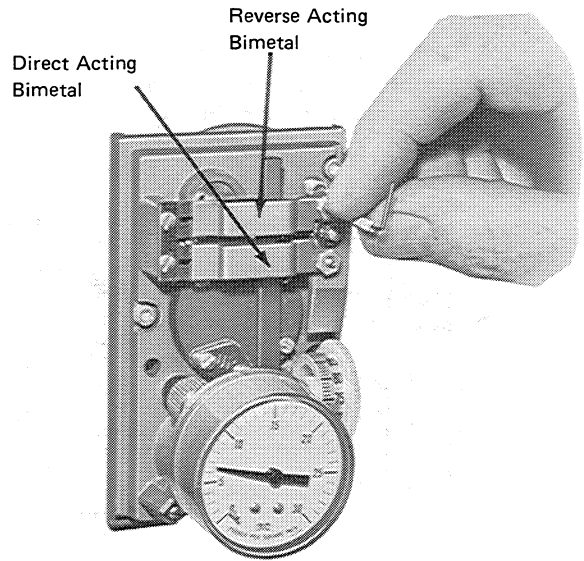

Figure 9
5. With a .048-inch six spline wrench, turn the calibration screw (Figure 9) clockwise if the controlled pressure is above 8 psig and counterclockwise if it is below 8 psig. Adjust the screw until the controlled pressure is 8 ± 1 psig.